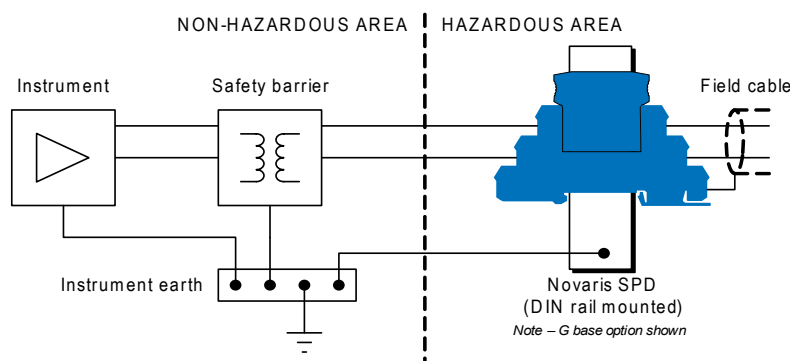

Figure 6: Installation after IS barrier
3.3 Isolation: The signal wiring to the Novaris surge protection device must be galvanically isolated using a suitable safety barrier. An example of appropriate connection to an safety barrier is given in figure 6.